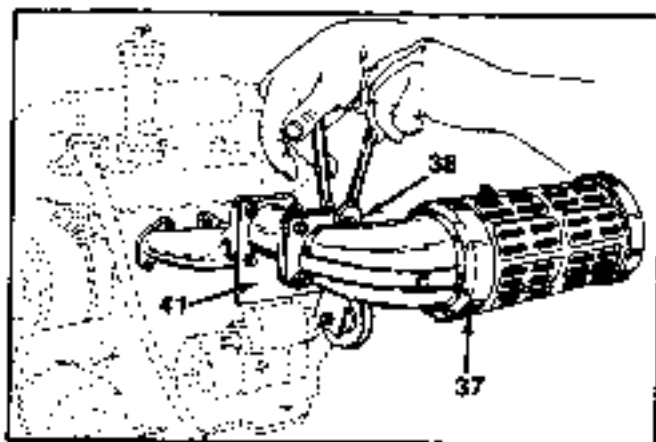

FIGURE 23.
21. Remove the four hex bolts and nuts from muffer and exhaust extension. See figure 23.